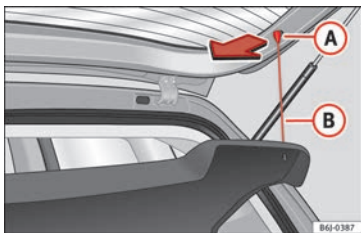

Fig. 140 Rear shelf.
- Unhook the loops » Fig. 140 (A) from housings (A).